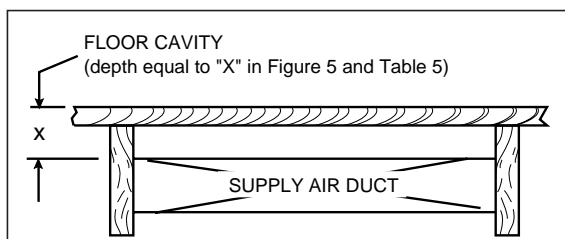

Figure 3. Floor Cavity Cut-Out
- Determine depth of floor cavity from surface of floor to top of supply air duct (See Figure 3).